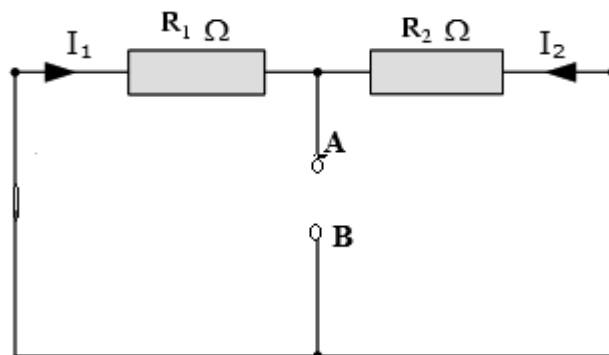

Figure 3
6. Remove both voltage sources by internal resistances or short circuits the terminal of it's and measure the resistance between open terminals A and B (i.e. R_{TH}). As shown in figure 3